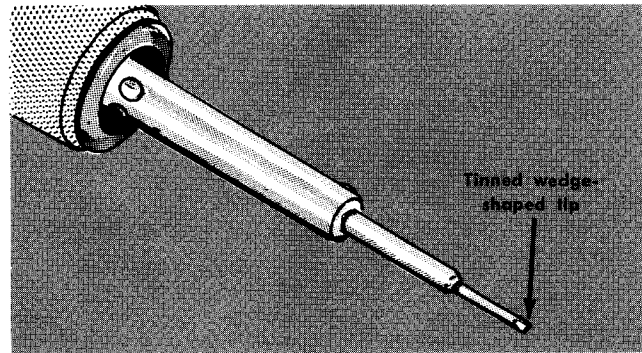

Fig. 5-1. Soldering iron tip properly shaped and tinned.
Because of the shape of the terminals of the ceramic terminal strips, you may prefer to use a wedge-shaped tip on your soldering iron. Such a tip allows you to apply heat directly to the solder in the terminals and reduces the amount of heat required. It is important to use as little heat as possible while producing a full-flow joint. Fig. 5-1 shows the correct shape for the tip of the soldering iron. Be sure to file smooth the surfaces of the tip before tinning. This prevents solder from building up on rough spots where it will quickly oxidize.
2. Prepare the tip of the iron as shown in Fig. 5-1. Tin only the wedge portion of the tip with solder containing 3% silver.